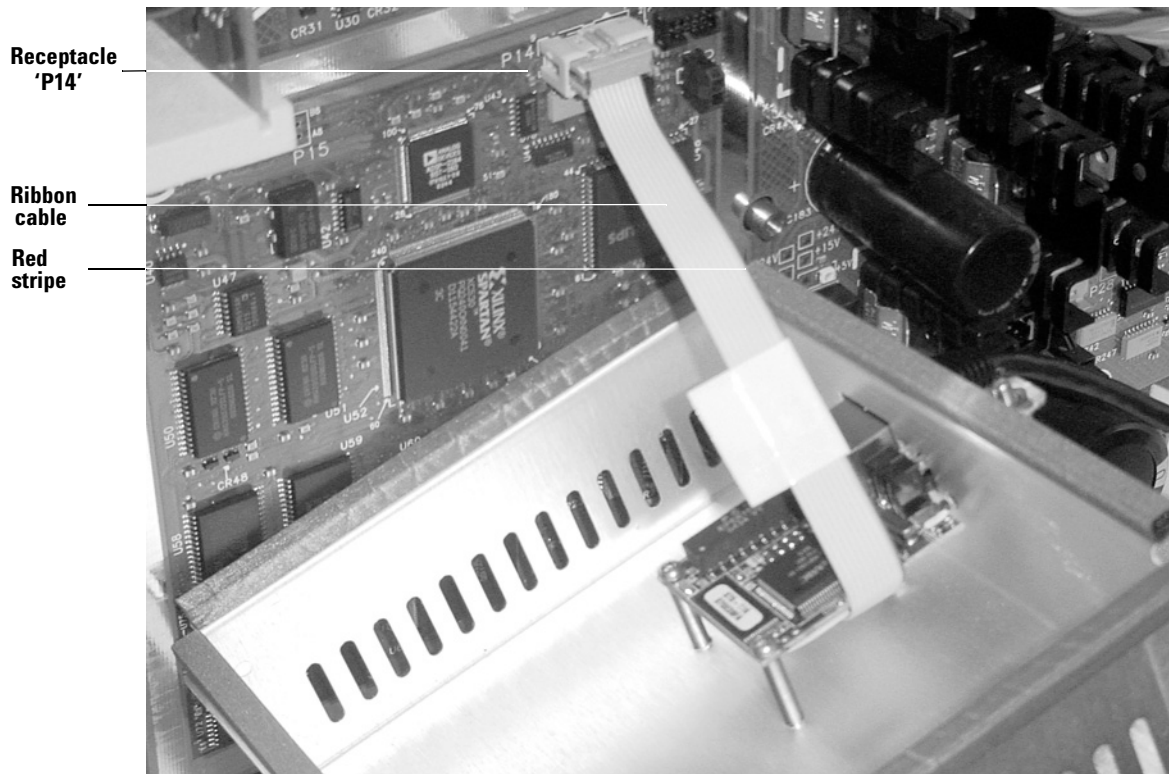

Figure 5 LAN board connection to main board receptacle 'P14'
- 3 Insert the connector found at the end of the ribbon cable from the LAN board fully into receptacle 'P14' found on the main board (Figure 5).